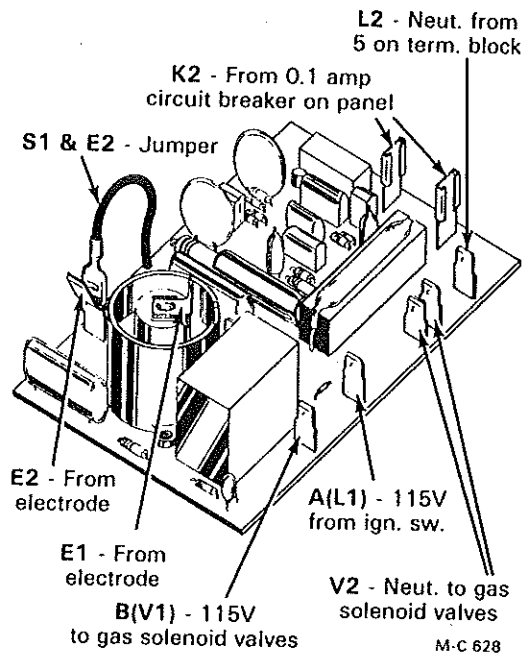

Figure 37 - Ignition Board w/o Remote Sensor
- B. Remove the electrode wires from terminals E-1 and E-2 on the ignition board, see Figure 37 and 38.
4. Check to be sure that there is 115V power to the ignition board. Connect a voltmeter between terminal **A (L1)** and **L2** on the ignition board, see Figure 37 and 38.
7. If there is 115V between terminal **A(L1)** and **L2** check for 115V at terminal **B(V1)** on the ignition board, see Figure 37 and 38. Connect a voltmeter between terminal **V2** and **B(V1)** on the ignition board.